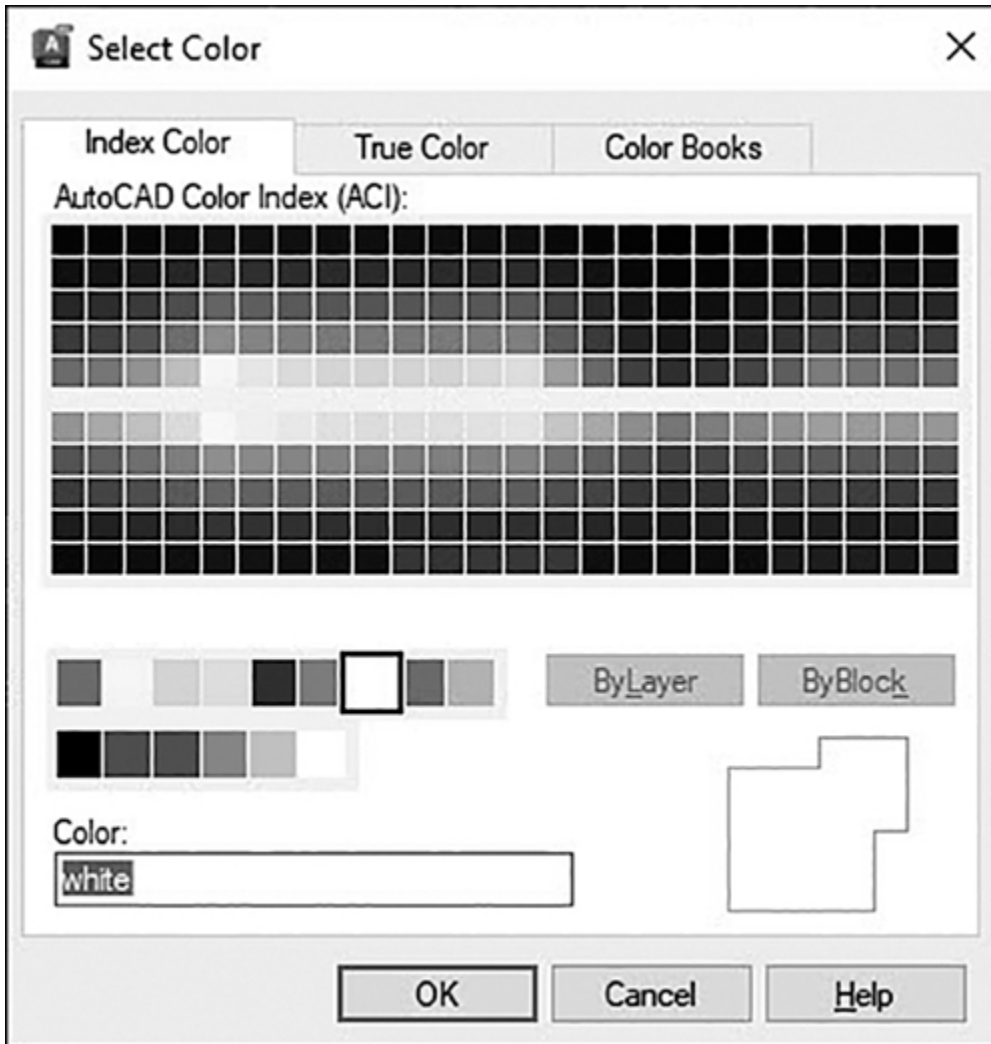

Figure 2-22
- 4** Choose the color setting for the **Object** layer you just created. This will display the **Select Color** dialog box (see Figure 2-22). Choose the color red (index color 1) and choose **OK** to close the dialog box.